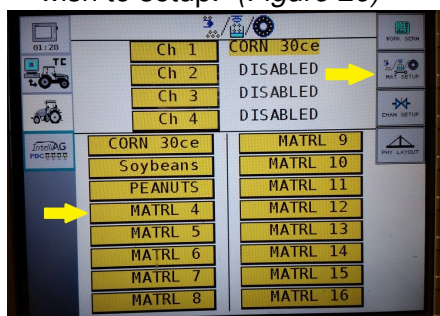

Figure 26
Step 3. Select Channel Setup from icons on side or simply select the channel you wish to setup. (Figure 26)